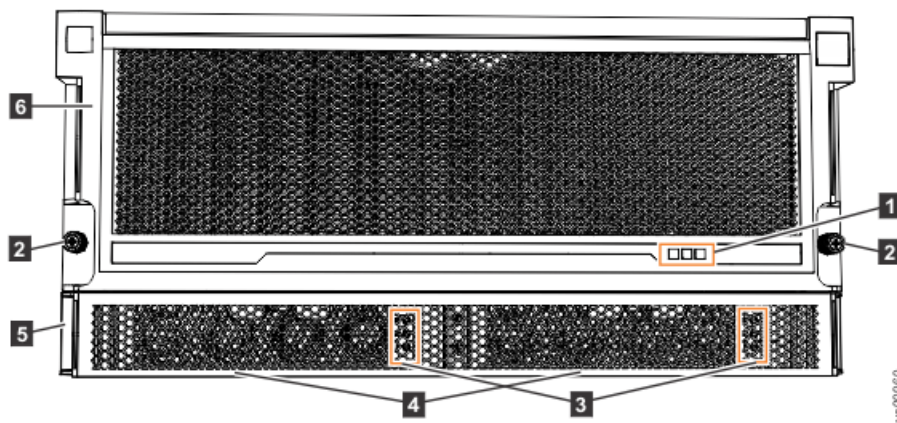
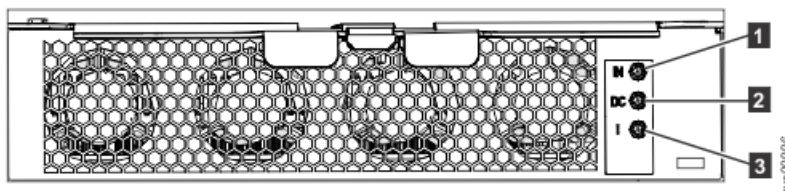

Figure 55. LEDs on the front of the expansion enclosure
Figure 56. LEDs on the front of a power supply unit
As Figure 55 on page 65 shows, the front of the expansion enclosure contains LEDs for the display panel (1) and for each of the power supply units (3).
The expansion enclosure contains two PSUs (4 in Figure 55 on page 65) that are accessible from the front of the enclosure. Each PSU has its own a set of LEDs, as shown in Figure 56 on page 66.